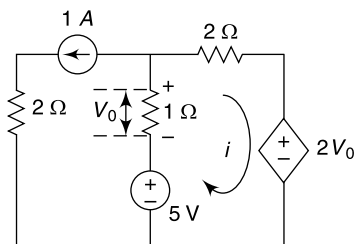

Fig. 4.197
36. What is the power supplied by the dependent source in the circuit of Fig. 4.197.